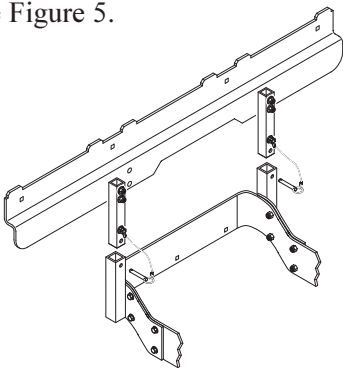

Figure 5
12. Attach the hood assembly to the machine by installing the mounting post into the hopper mounting brackets and secure with the ring pins. See Figure 5.